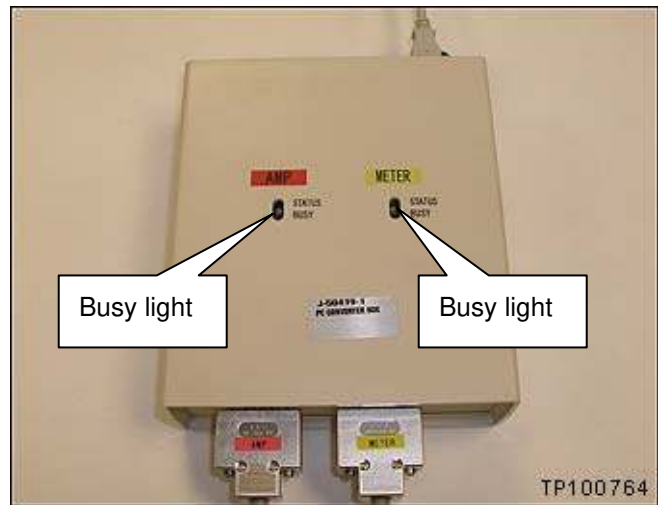

Figure 1h
15. Look at the “busy” lights on the converter box (see Figure 1h).